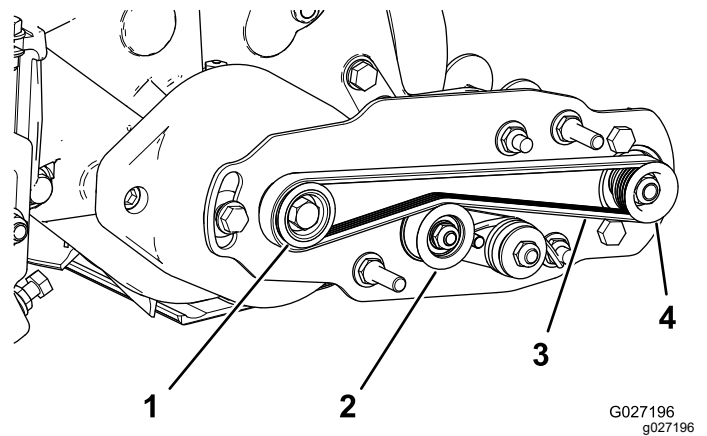

Figure 16
- Loop the belt around the **drive** pulley and then over the top of the idler pulley (Figure 16).